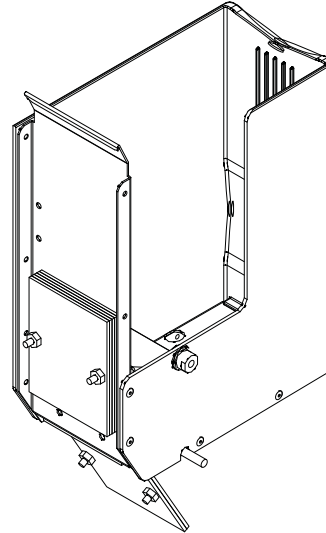

Figure 8.
26. Replace the port bushings with new ones from the kit. (Refer to Figure 8.) **Note:** This is a preventative measure, as the bushings will wear over time or with heavy usage.